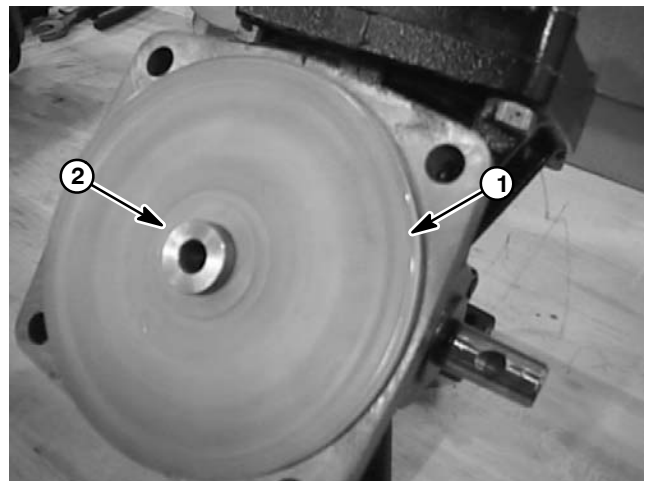
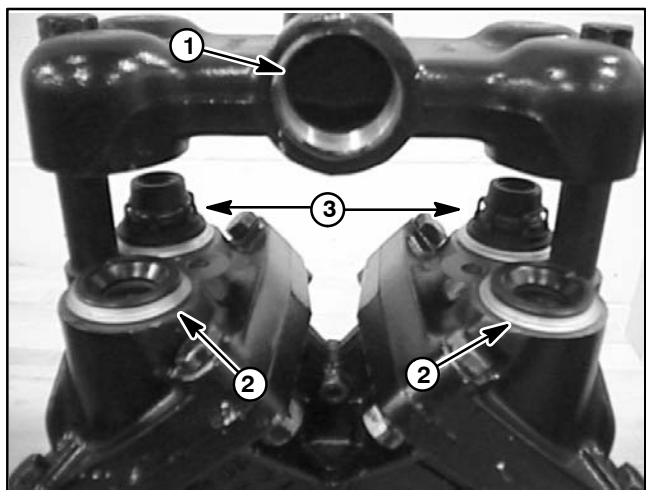

Figure 11
Figure 12
4. Place diaphragm back disc and new diaphragm onto each connecting rod. The connecting rods should extend above the diaphragms when correctly installed (Fig. 11). Position nylon washer and washer on each connecting rod and then thread hex bolt into connecting rod. Torque bolt to 60 ft-lb (81 N-m).
5. Make sure that pump casings align and then secure pump casing assembly by torquing five (5) bolts to 32 ft-lb (43 N-m).
7. Place new o-rings and valves into diaphragm cover openings (Fig. 12). Inlet valves should be installed with the spring down into the cover and should be on the same side of the pump as the crankshaft grease fitting. Outlet valves should be installed with the spring up and away from cover and should be on the same side of the pump as the crankshaft extension.
8. Place valve chamber over valves noting orientation of chamber inlet and outlet. Secure valve chamber with two (2) hex bolts. Torque bolts 60 ft-lb (81 N-m).